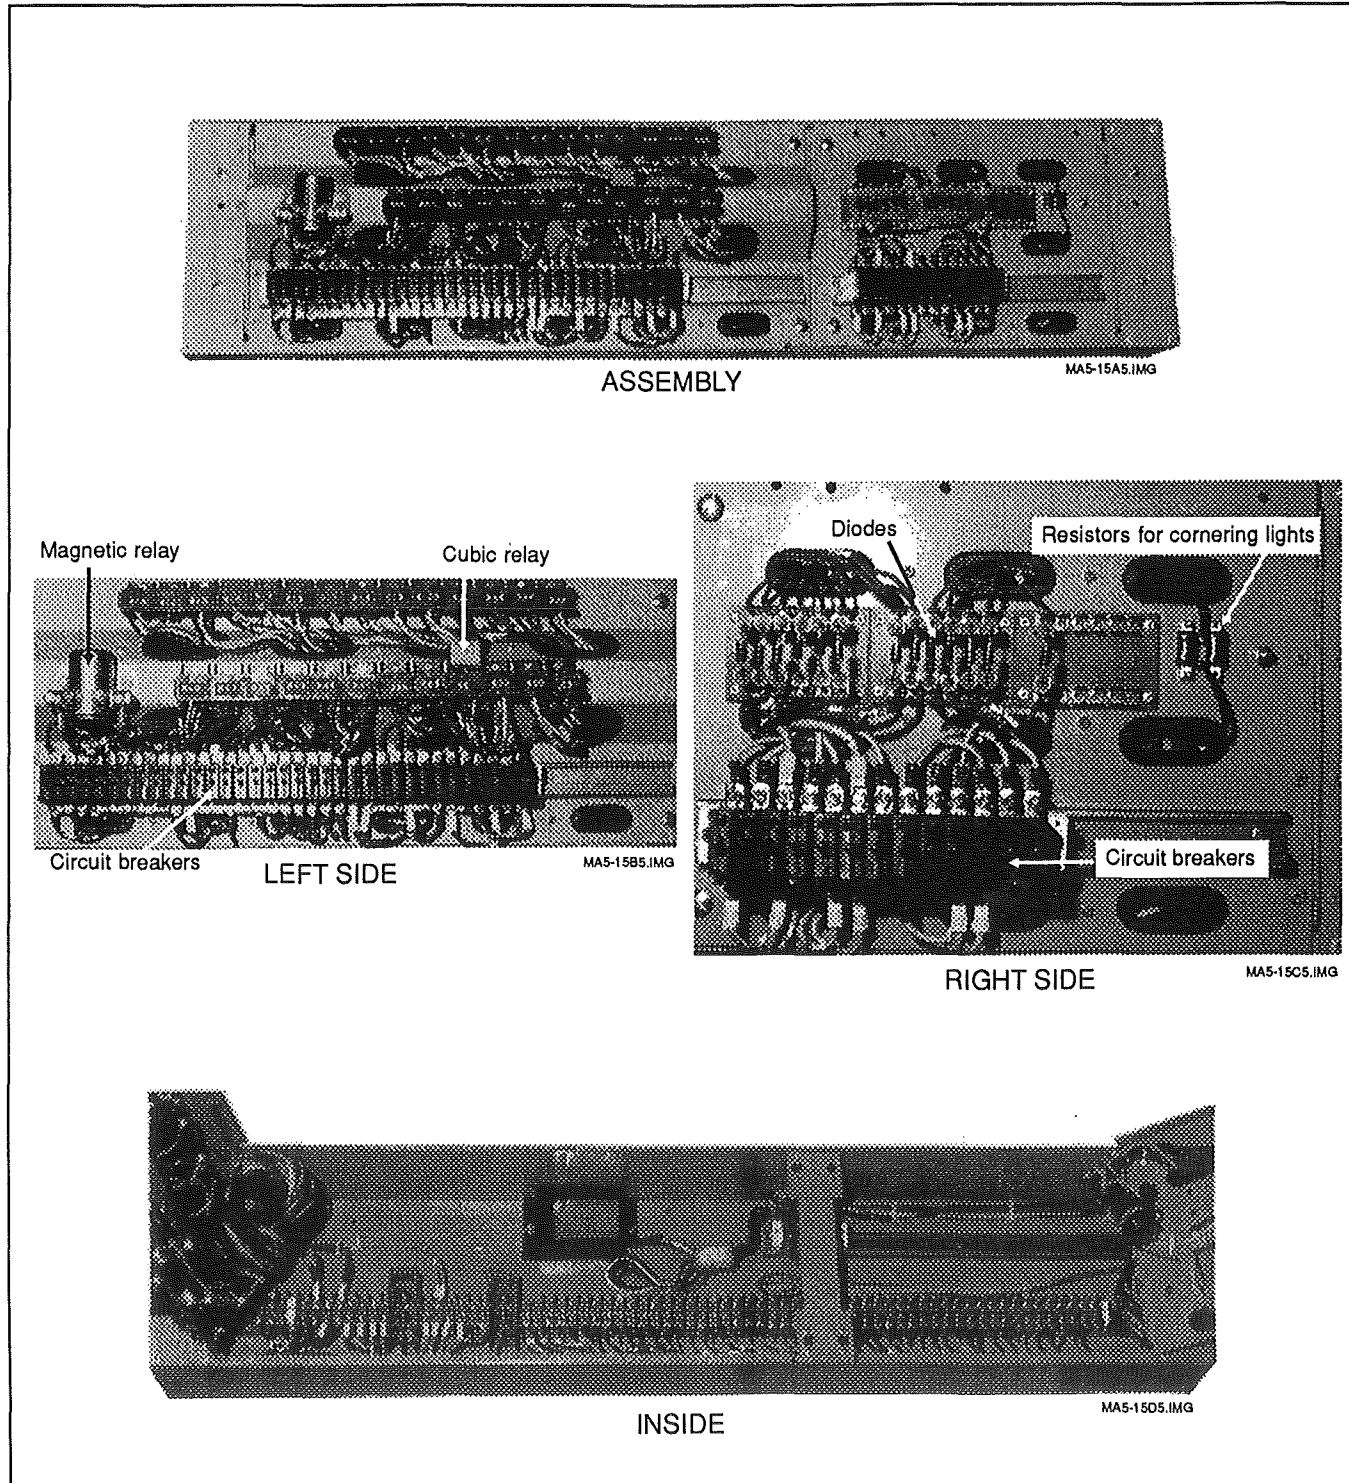

FIG. 5 - Front junction box
box, unscrew the 1/4 turn screws (2). There are many spare terminals for connecting optional or additional accessories, as well as the speed switch for the rear door safety mechanism and for the articulation brake (see fig. 5).